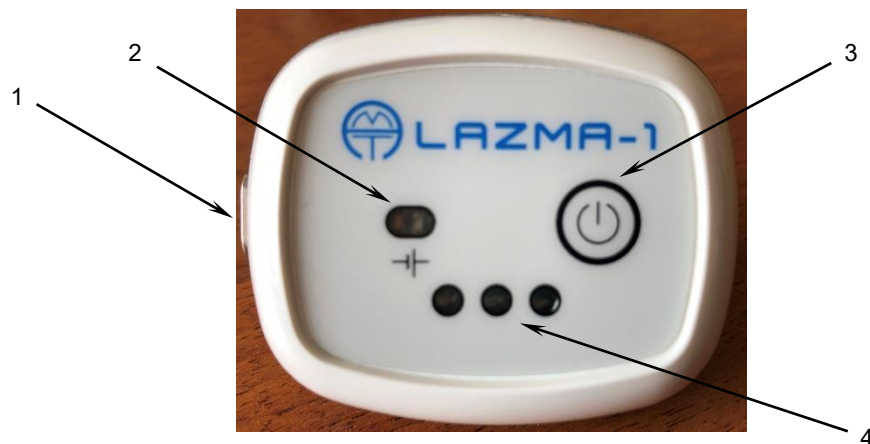

FIGURE 1: AMT LAZMA-1 FRONT SIDE
Figures 1 and 2 below shows the AMT LAZMA-1 and its notable features.
Prior the use please charge the internal battery by connecting the charger to. The charger is magnetically attached to the socket on the side panel of the device (Figure 1, pos. 1). In this case, the green LED starts flashing up indicating the charging in progress. When the green LED goes off it means that the internal battery is fully charged. With a fully charged battery, the sensor can serve 4 hours of continuous operation. The need for charging is indicated by a flashing yellow LED.